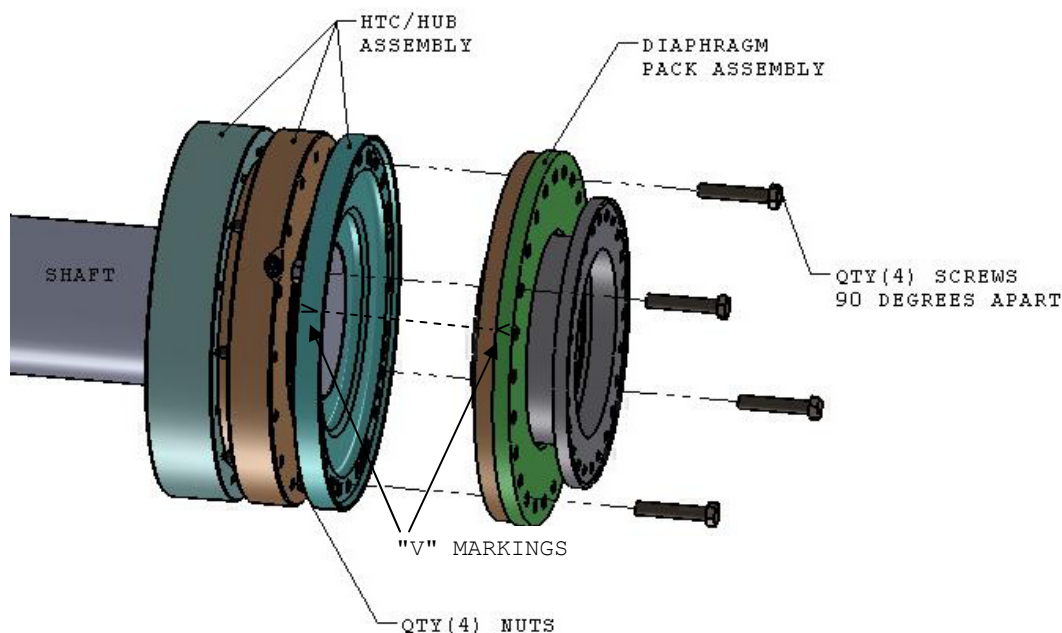

Figure 6 - Diaphragm Pack Installation
3.1.4 Install one of the diaphragm packs onto the hub as shown in Figure 6 using Qty(4) supplied bolts and nuts spaced 90 degrees apart. Be sure the 1/4"-28 jacking tap holes in the diaphragm pack do not line up with any holes in the HTC hub flange. "V" marks may be located on the hub and diaphragm pack rims as an aid (see Figure 6). Aligning the V marks, although not required, will ensure the jacking taps are in the correct position. Tighten the bolts in a criss-cross pattern to seat the pilot. (Reference Form 367-SH, section 4.5.1.3)